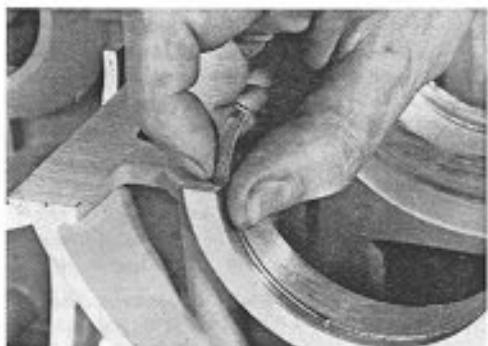

Fig. 171
- Installare i semianelli nelle loro cave (Fig. 171).
- Fit the bearing retaining clips into their grooves (Fig. 171).